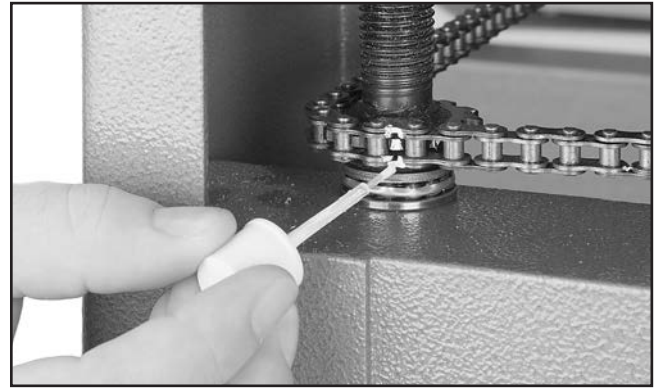

Figure 67. Marking sprocket tooth and chain.
4. At the lift screw that needs to be adjusted, mark the end of a sprocket tooth and the chain hole where that tooth is meshed, as shown in **Figure 67**.